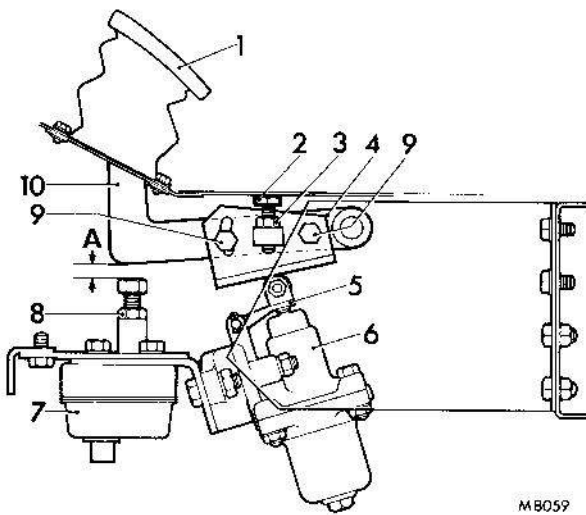

FIG. 1. THROTTLE PEDAL SETTING DIAGRAM
- With the pedal retained in position, adjust rubber buffer (2) until it contacts the underside of the floor plate, screw buffer (2) down one full turn and secure locknut (3).
- Unscrew locknut (8) and obtain dimension (A), Fig. 1 between setscrew head on performance level switch (7) and pedal assembly (10), tighten locknut (8).
- In order to fully depress the performance level switch (7) the total pedal travel should be approximately 25 mm (0.98 in).
- Separate spring housing (3) from valve body (9) and withdraw control spring (24), control spring seat (25), diaphragm assembly (6) and exhaust valve spring (20).
- Remove dust protector (14) and withdraw inlet/exhaust valve assembly (19).
- Remove O-rings (16, 18) from inlet/exhaust valve assembly (19).